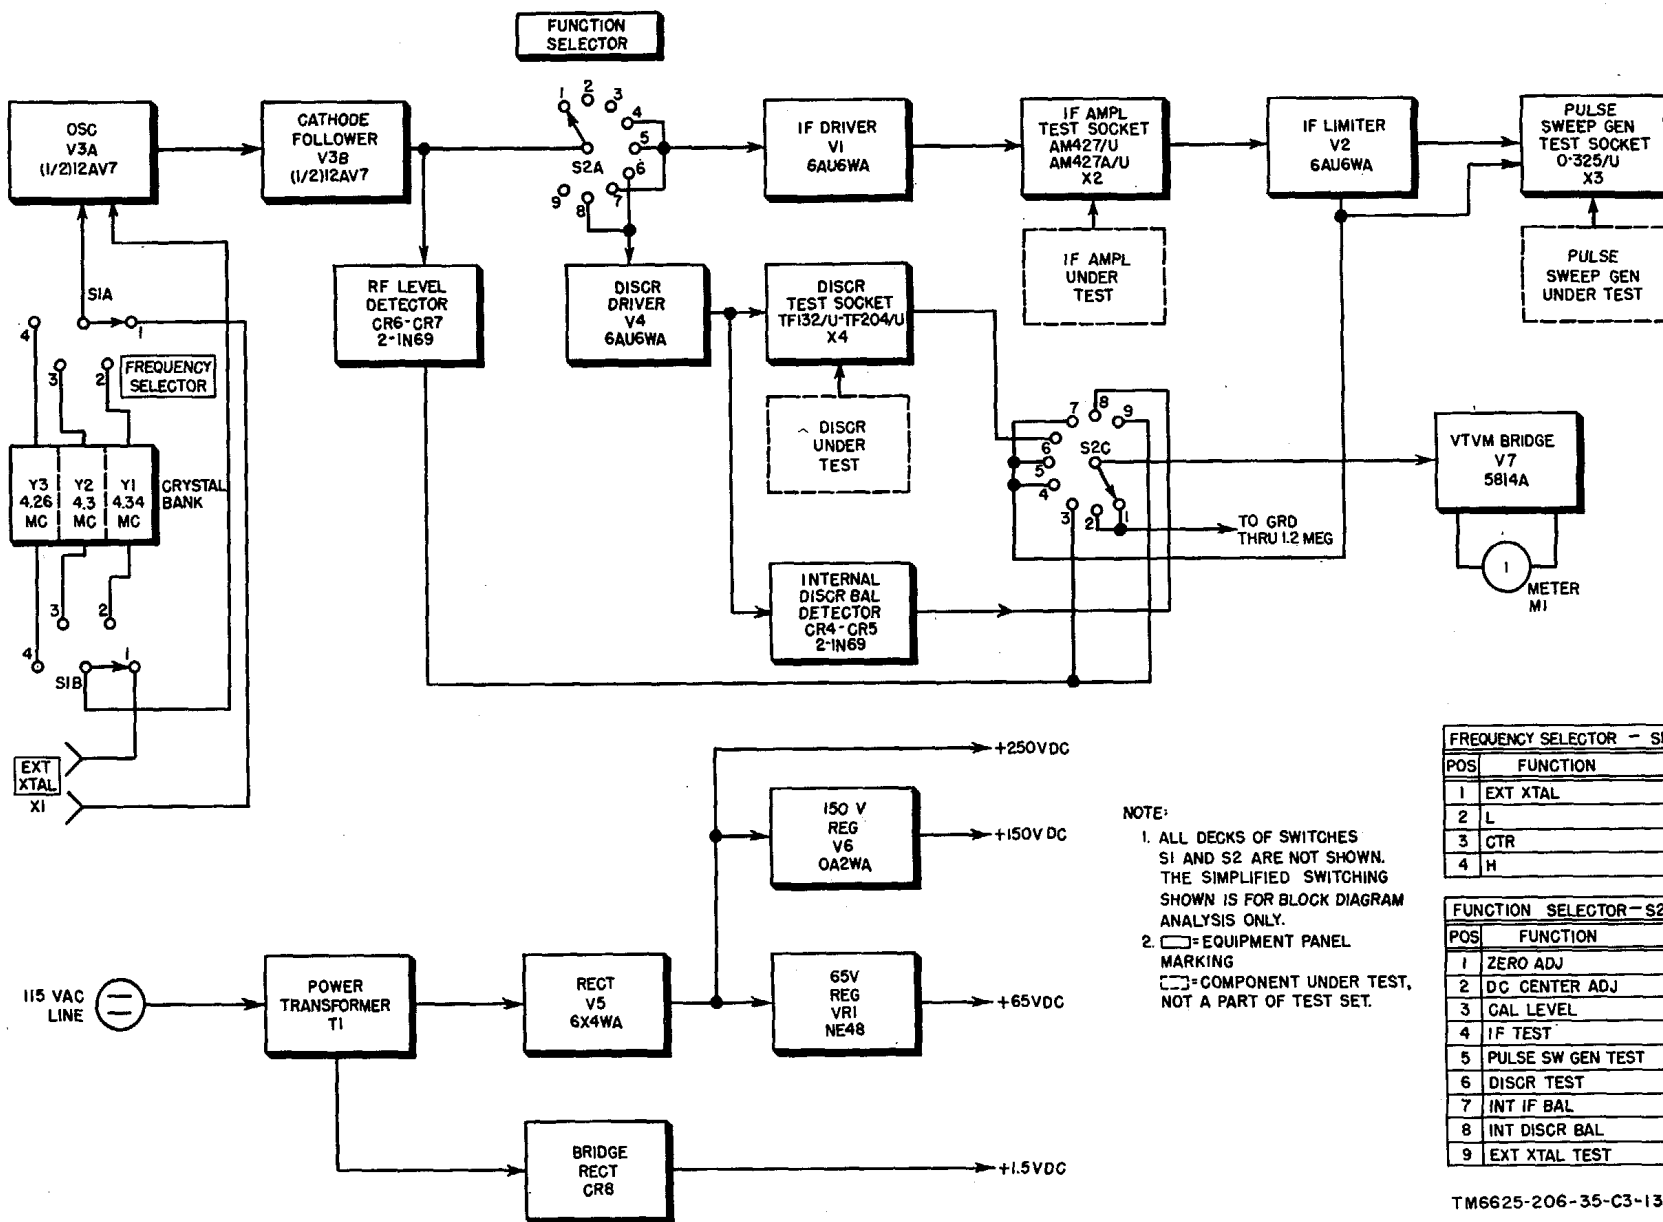
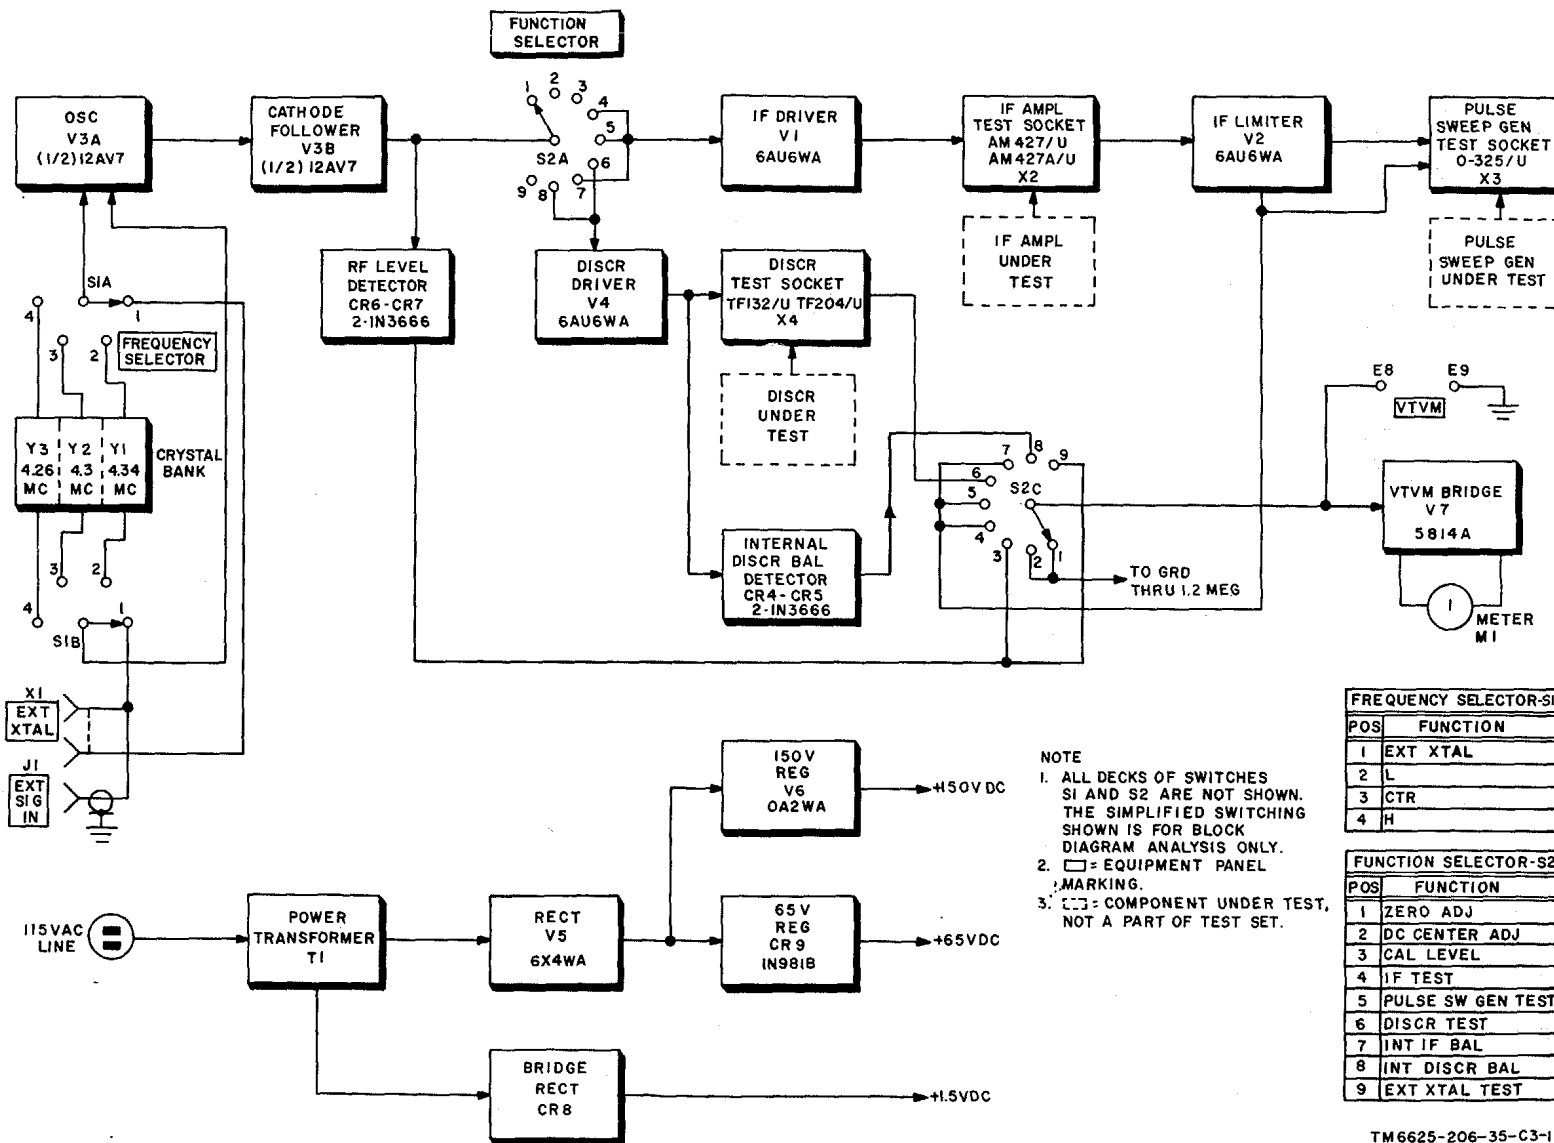

Figure 1. Block diagram (AN/URM-1S1).
Figure 1.1. Block diagram (AN/URM-113A).
Last line. Change "(fig. 1)" to: (fig. 1 or 1.1).
k. *Internal Discriminator Balance Detector.* A detector consisting of CR4 and CR5 detects the output ,o(f V4 and applies this voltage to the vtm bridge through the FUNCTION SELECTOR switch. This voltage is used to check the alignment of discriminator driver stage V4 when the FUNCTION SELECTOR switch is set in INT DISCR BAL (position 8, fig. 1 or 1.1).
Delete the last four sentences of subparagraph m and substitute: A type OA2WA tube, V6, provides a regulated 150 volts for all stages in the test sets, except the cathode follower stage of AN/URM-113. In the AN/URM-113, the second voltage regulator is a : type NEI4'8 neon lamp, VR'1, that provides a regulated 65 volts which is used mrhen testing if. amplifiers. In the AN/ URM-113A, this regulated 65 volts is provided by a type 1N981B Zener diode CR9 (fig. 1.1). Selenium rectifier CR8 is used in a full-wave bridge rectifier circuit that supplies 1.5 volts direct current (dc) to the filaments : of the -units under test.
Page 4, figure 1. Make the following changes:
Delete figure 1 and substitute the new figure 1.
Add figure 1.1 after figure 1: